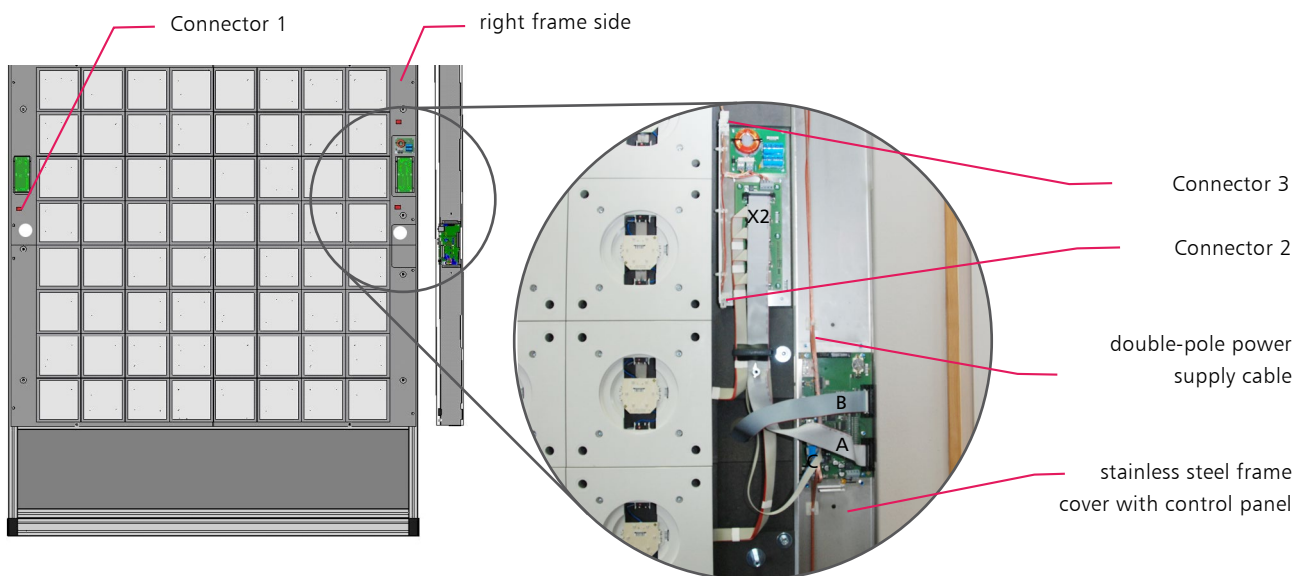

fig. 3.1-36
**Step 27:** Now connect the power supply for the basic modules. For connector positions please see **fig. 3.1-36**. At first, connect connector 1 (upper left basic module) to connector 2 (upper right basic module below the manifold PCB). Following, connect connector 3 (upper right basic module above the line filter) to the control panel in the stainless steel frame cover **B2**.